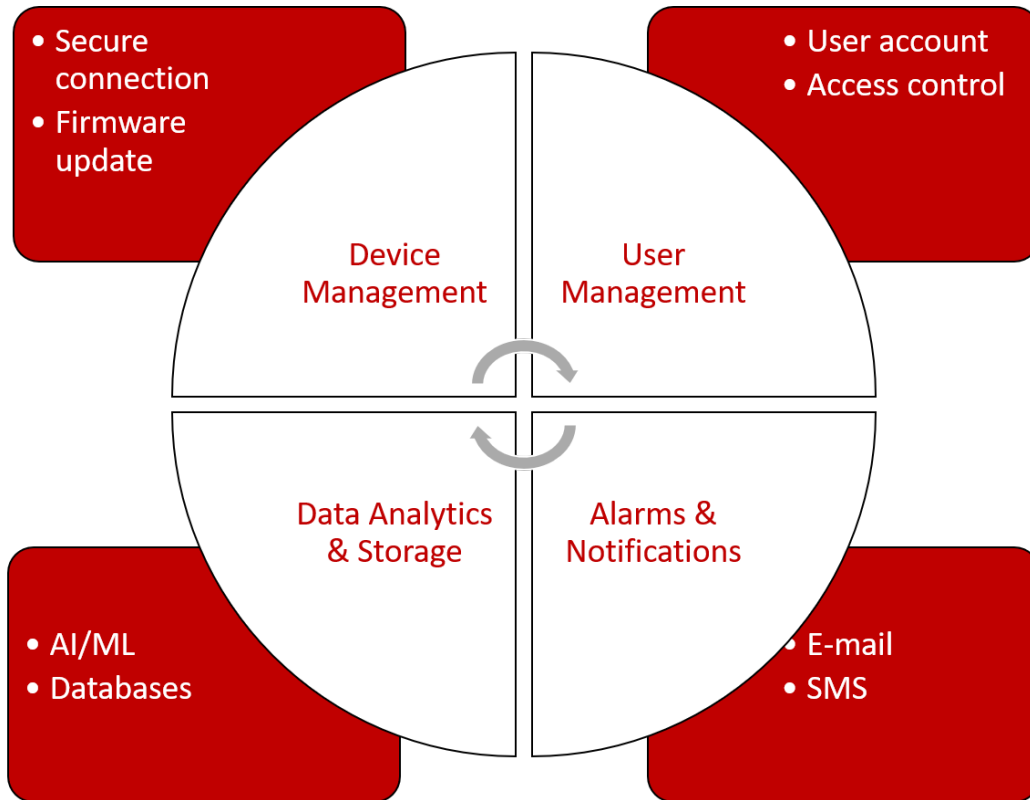

Figure 4: Components of a data platform
- **Data platform:** This is the platform where the data is finally stored and presented for further analysis. Options here can range from a local database to a cloud server with redundancies. A typical platform consists of the components as shown in figure 4. The data platform enables the use of technologies like Artificial Intelligence (AI) and Machine Learning (ML) to perform advanced data analytics that generates value additions to the application.